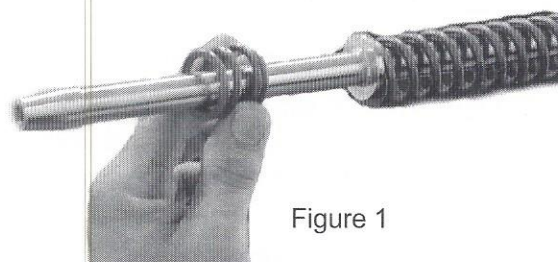
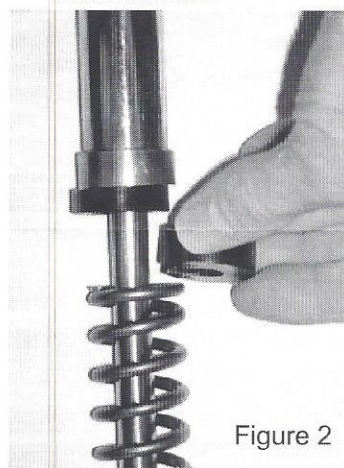
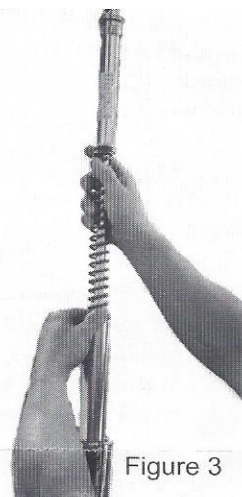

Figure 1
Figure 2
Figure 3
- Put the stock top out spring onto the Progressive Suspension Monotube cartridge assembly as shown (see figure 1) AND one (1) of the supplied "C" shaped preload spacers between the top of the fork spring and the upper spring seat (see figure 2). Then insert it into the fork assembly as shown (see figure 3).